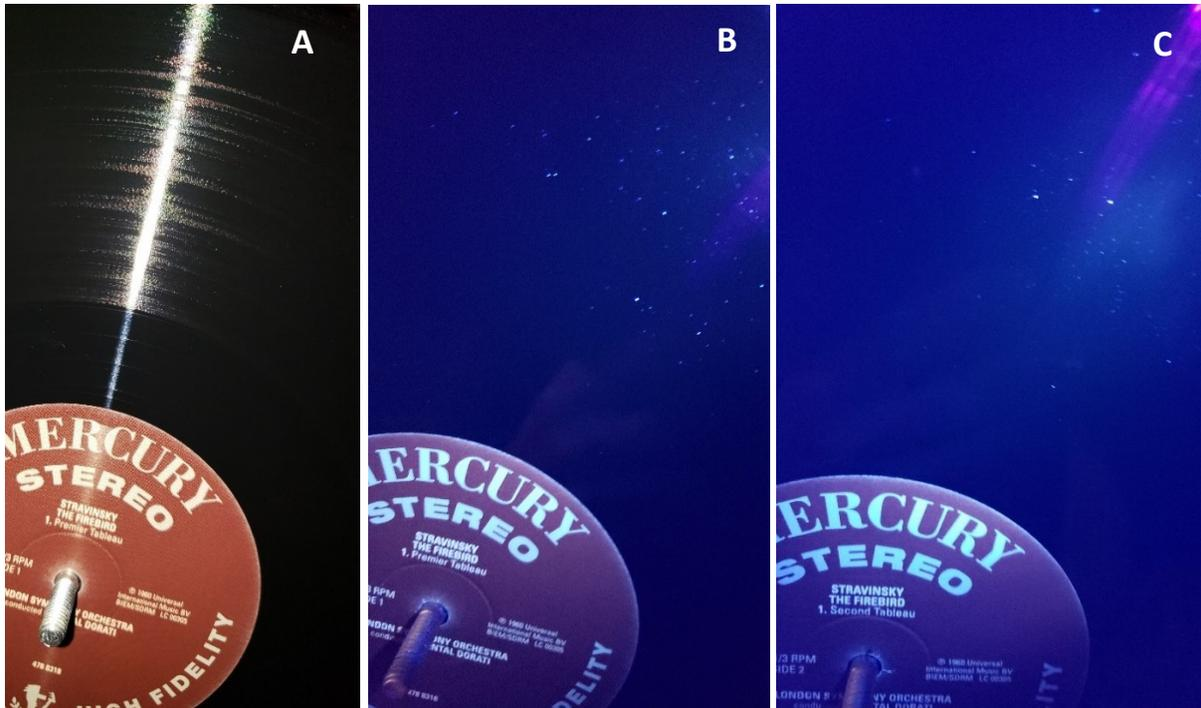

Figure 11 – One Record Inspected White & UV Light Before-After Cleaning
IV.7 A well-known new record is shown in **Figure 11**. Photo A is white light after the record had been cleaned with a well-known record brush and an optical cleaning solution that will
- IV.8 What is the source of the very fine particles that are in the groove? After reading this post Record Cleaners - a confession | Page 2 | Audiokarma Home Audio Stereo Discussion Forums, it occurred to me that the particles can be mineral salts (such as calcium & magnesium carbonate) which fluoresce intensely. The source is not the record formula, it's from the natural aerosols that are in the air. Natural aerosols are (*ref: NASA*) “tiny solid and liquid particles suspended in the atmosphere. Some aerosols come from natural sources, such as dust, volcanic eruptions, and sea salts. Some aerosols are produced by humans, such as pollution from industries or automobiles, or smoke from fires.” Depending on the pressing plant cleanliness, ventilation and handling, these natural background aerosol particles can be pressed-in or deposited on the record. Very small mineral salt particles are easily dissolved/removed with a weak acid; the same process applies when using distilled white vinegar to clean a coffee pot. The record in **Figure 11-C** was cleaned with 1.5% Alconox™ Citranox™ acid cleaner (**V.Step.6**) and the particles were removed and the record played much quieter.